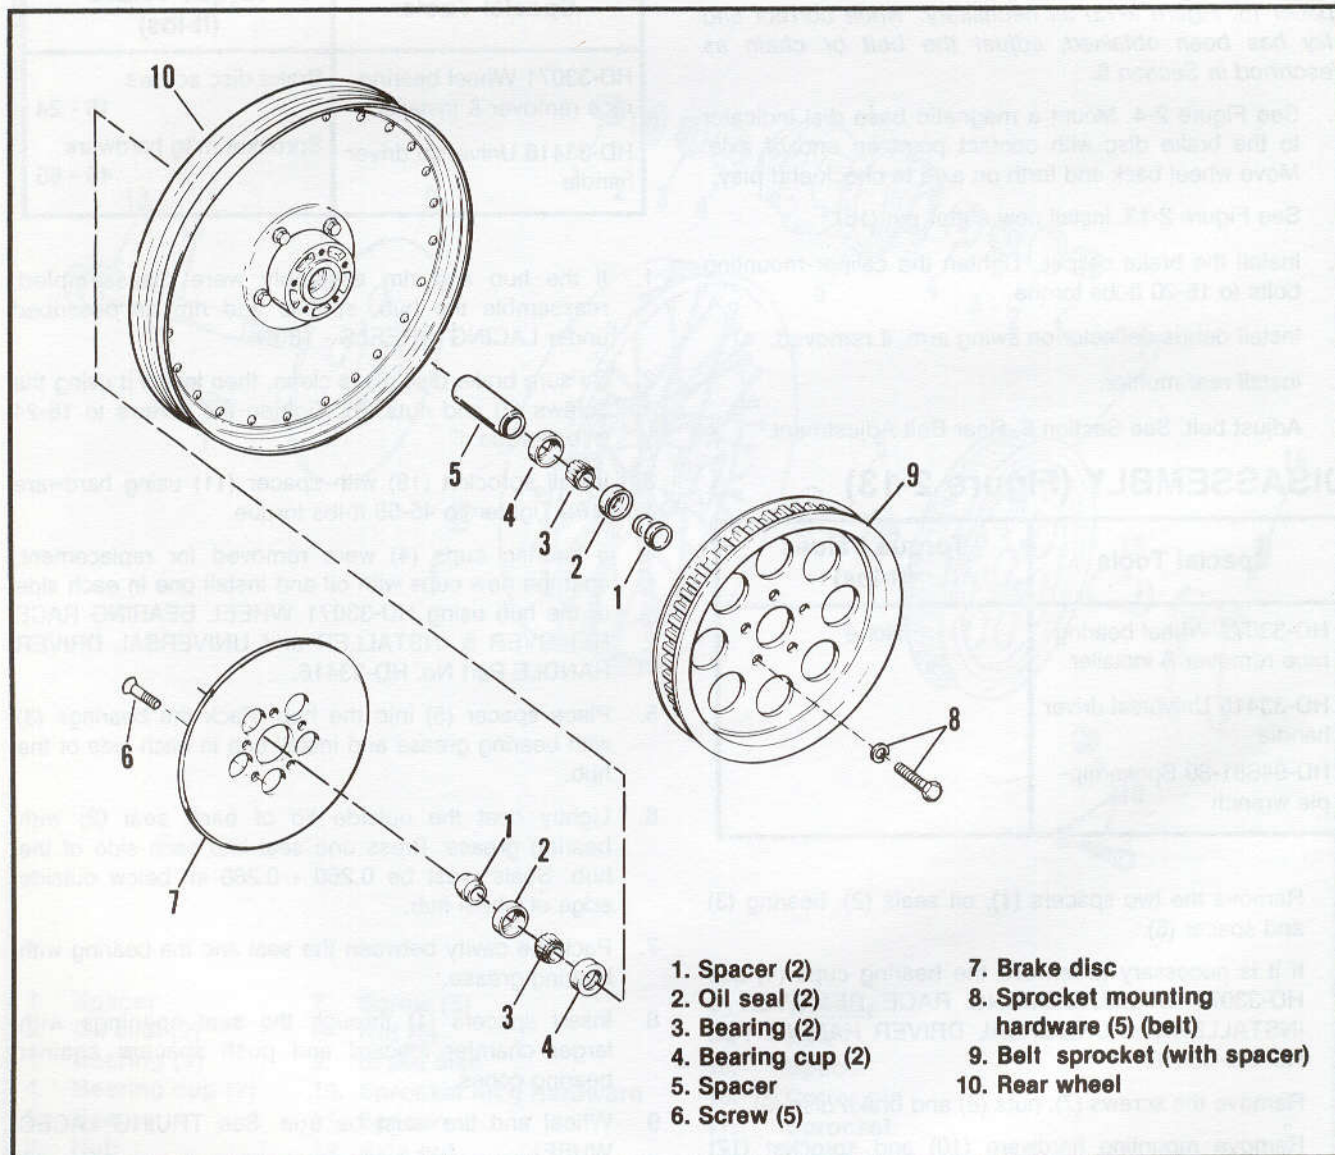

Figure 2-15. Rear Wheel - Disc
- 2. See Figure 2-15. Coat axle with Loctite ANTI-SEIZE. Install collar (18) on axle (17). Install axle through right side of swing arm, rear bracket, spacer (18), wheel left spacer (15) and left side of swing arm and collar (18).
- 3. Install the washer (13) and axle nut (12).
- 6. See Figure 2-15. Install new cotter pin (16).
DISASSEMBLY (Figure 2-15)
ASSEMBLY (Figure 2-15)